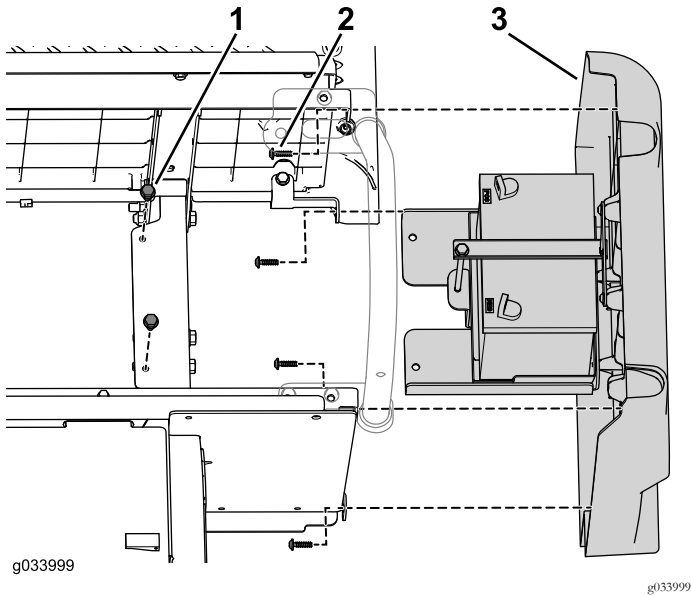

Figure 45
- Use the hardware you removed earlier to install the original right panel assembly to the rear seat-base panels (Figure 45).